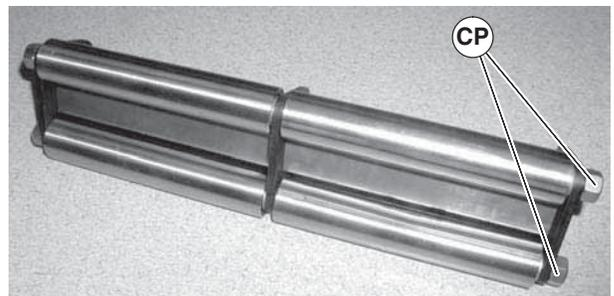

Figure 69
5. Remove hex nuts (Figure 69, item CP).